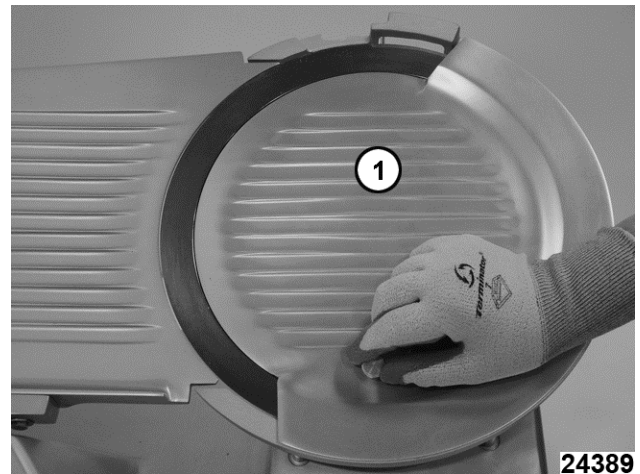

Fig. 6
2. Lift the knife cover (1, Fig. 6) off.